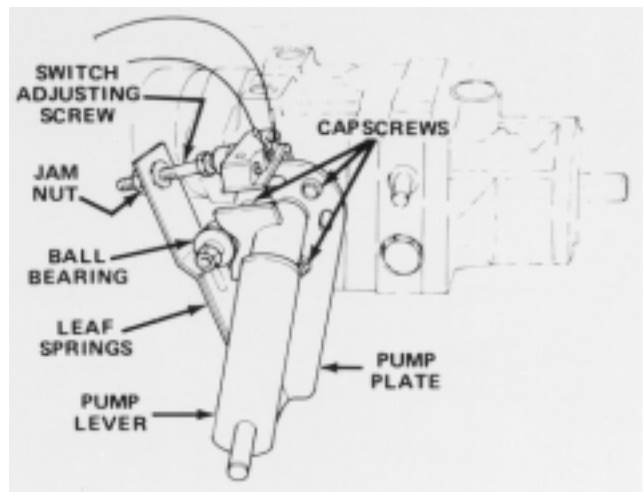

Figure 50
1. Park vehicle on a level surface and turn engine off. Apply the parking brake, tip seat forward, and actuate pump lever (Fig. 50) to ensure assembly is properly seated and operating freely. Correct any discrepancy.
6. Because the wheel is rotating, the pump plate must be adjusted. But before adjusting the pump plate, move throttle to SLOW. If wheel is rotating forward, loosen capscrews, and lightly tap bottom of pump plate counterclockwise (Fig. 50). By contrast, tap pump plate clockwise if wheel is rotating backward (Fig. 50). When wheel stops rotating, tighten capscrews holding pump plate against side of transmission. Verify the adjustment with throttle in SLOW and FAST position.
11. Because the wheel is rotating, the pump plate must be adjusted. But before adjusting the pump plate, move throttle to SLOW. If wheel is rotating forward, loosen capscrews, and lightly tap bottom of pump plate counterclockwise (Fig. 50). By contrast, tap pump plate clockwise if wheel is rotating backward (Fig. 50). When wheel stops rotating, tighten capscrews holding pump plate against side of transmission. Verify the adjustment with throttle in SLOW and FAST position.
- Ball bearing is loose or worn out (Fig. 50).
- Weak or damaged leaf springs (Fig. 50). Replace.
2. Actuate the pump lever (Fig. 50) to ensure all parts are operating freely and seated properly.
3. Loosen jam nut. Rotate switch adjusting screw (Fig. 50) until there is a gap between head of screw and switch button.